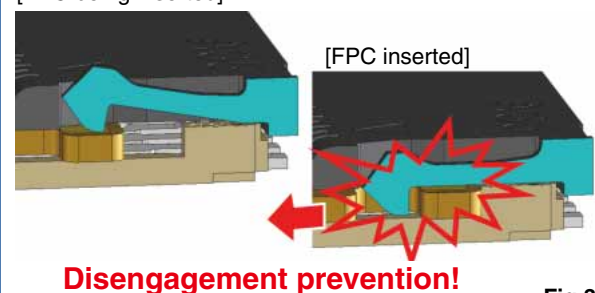

Fig.3
- The notches on both sides of FPC are held by the lock lever, generating a high FPC retention force in spite of the small size. (Fig.3)